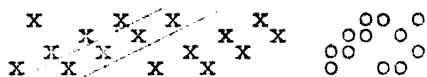

Fig.1
By "double diagonal" we mean 1-st that there are two diagonals in threading, like in fig.1, and 2-nd that the distance between two diagonals in the pattern is twice the usual distance in plain twill
Another peculiarity of DD is that it is always woven with one shuttle only. As it is obvious from the draft in fig.1, there is no tabby, and the usual tabby treadles produce pattern shots, exactly as the remaining 4 treadles. Thus the pattern has six blocks: rather unusual number with 4 harness-frames.
The treadling is found in exactly the same way as in diamond twill or overshot (see MW 16/8). The only difference is that we have here 6 pattern treadles. For instance in case of the draft in fig.1 we start from the right and rear: 34 = treadle 4; 24 = tr.1; 23 = 5; 13 = 2; 12 = 6, etc. The whole treadling will be: 4,1,5,2,6,1,3,2,4,1,5,2,6,1,3,2. The last treadle (2) will be used if we keep repeating the same threading.
But avoid straight sequence, like: 6543; it gives a very poor texture. For clothing and so on, the draft on fig 1 is the best. For curtains, upholstery etc., more fancy drafts like 2 or 3 may be better suited.